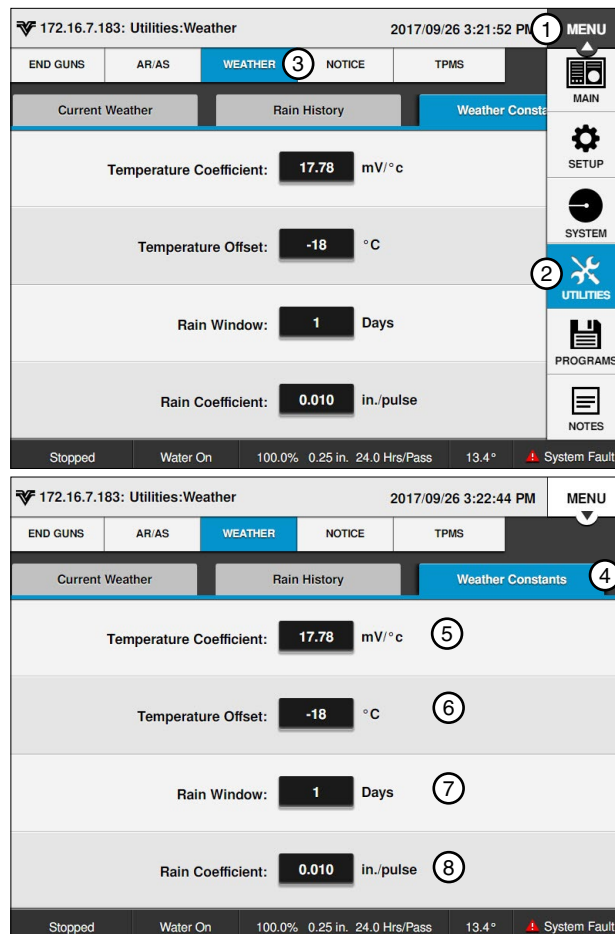

Figure 75-1 1. Menu 5. Temperature Coefficient
Push **Menu**, **Utilities**, **Weather**, and **Weather Constants** to display the Weather Constants screen. Refer to Figure 75-1.
Example: to enter a negative number, push the **ABC** button, then push the +/- button and select -, then push the **123** button to return the numeric keypad and enter 1, 8, - for -18. Valid values are -500 - +500. The default value is -18. Refer to Figure 75-1.
2. Using the numeric keypad, enter the number of days (0 - 10). The default value is 1. Refer to Figure 75-1.
2. Using the numeric keypad, enter the Rain Coefficient Inches per Pulse (Rain Coefficient inches/pulse). Example: 1, 0 for 0.010. Refer to Figure 75-1.